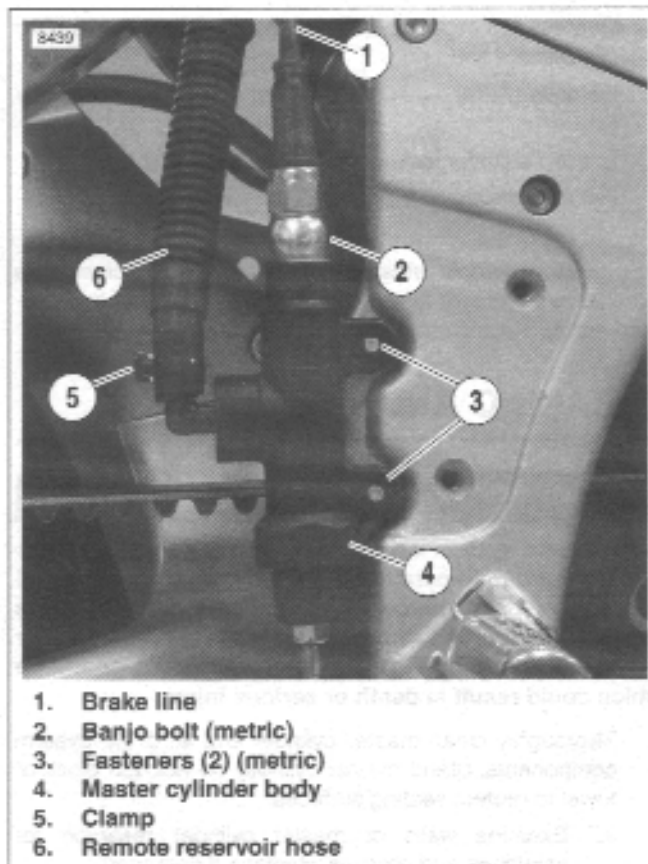

Figure 2-44. Rear Master Cylinder Mounting
9. See Figure 2-44. Remove fasteners (3) (metric) to detach master cylinder (4) from rider footpeg mount.